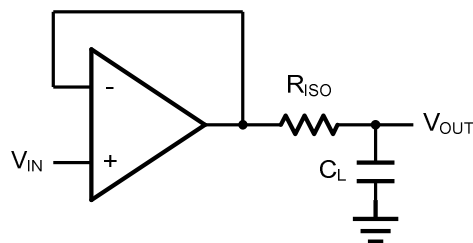
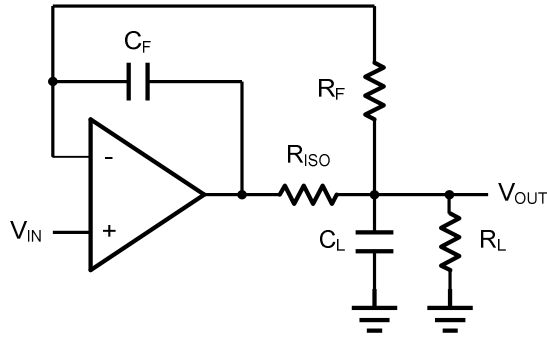

Figure 2. Indirectly Driving a Capacitive Load Using Isolation Resistor
Figure 3. Indirectly Driving a Capacitive Load with DC Accuracy
The AD855x family is optimized for bandwidth and speed, not for driving capacitive loads. Output capacitance will create a pole in the amplifier's feedback path, leading to excessive peaking and potential oscillation. If dealing with load capacitance is a requirement of the application, the two strategies to consider are (1) using a small resistor in series with the amplifier's output and the load capacitance and (2) reducing the bandwidth of the amplifier's feedback loop by increasing the overall noise gain. Figure 2. shows a unity gain follower using the series resistor strategy. The resistor isolates the output from the capacitance and, more importantly, creates a zero in the feedback path that compensates for the pole created by the output capacitance.
The circuit in Figure 3 is an improvement to the one in Figure 2. R_{F} provides the DC accuracy by feed-forward the V_{IN} to R_{L} . C_{F}